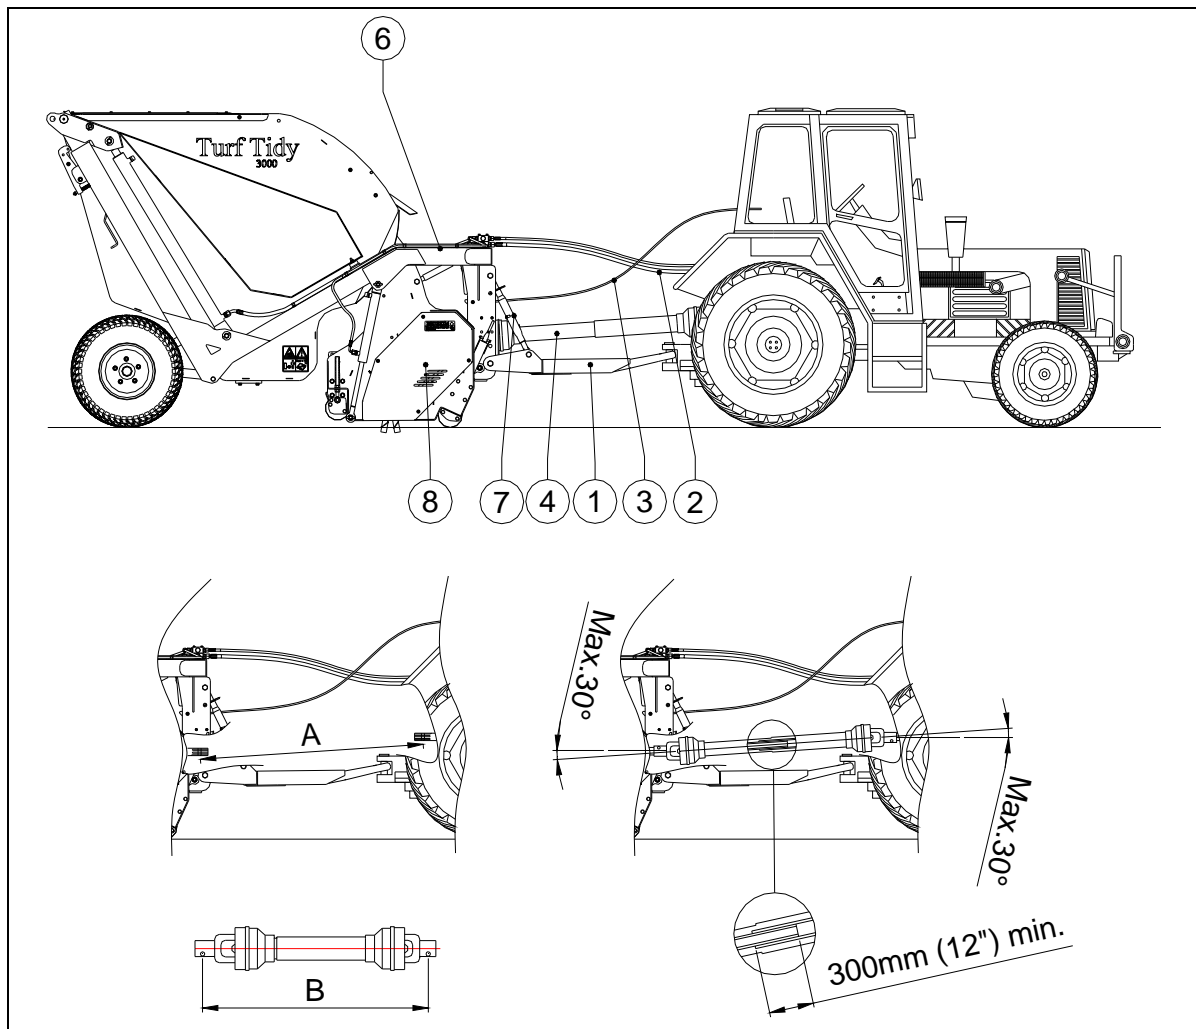

Fig.8
The connection method is as follows: (Fig. 8)
**The length changes when head 8 (see Fig.8) is lifted, when another tractor is used or when turning sharp corners.**
The procedure for correctly adjusting the length of the PTO shaft if newly purchased or if another tractor is used is as follows: (see Fig.8)